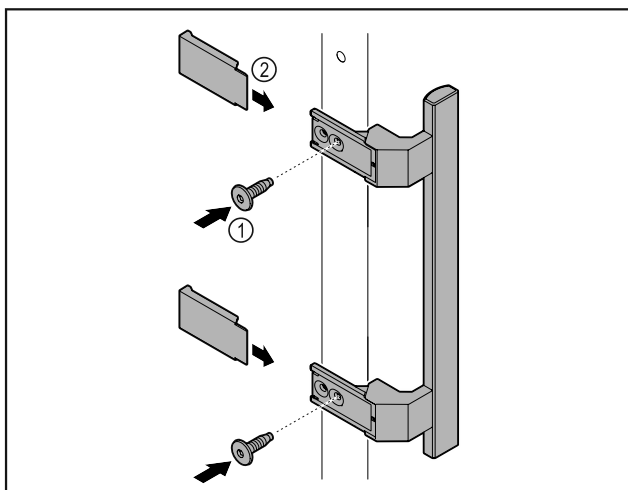

Fig. 63
- Attach handle from accessory kit to the door using the screws Fig. 63 (1) supplied.
- Put on cover Fig. 63 (2).